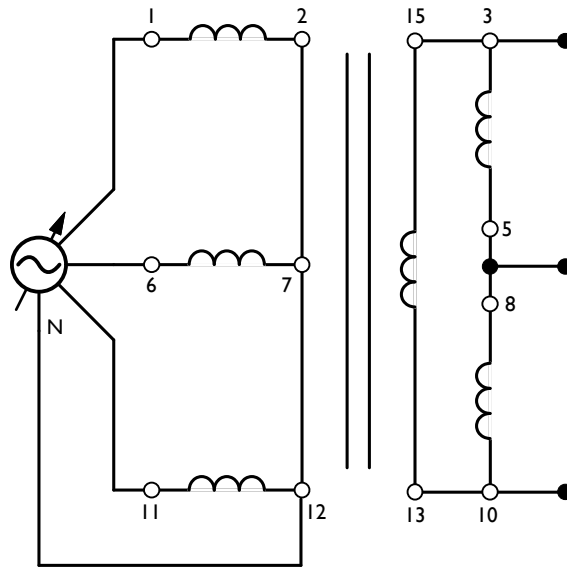

Figure 2.5: Three-Phase Transformer Connected in Wye-Delta
- 26. With the power off, connect the Three-phase Transformer module in the Y - Δ configuration shown in Figure 2.5. Connect E1, E2, and E3 to measure the line voltages at the primary, E_{1-6} , E_{11-1} , and E_{6-11} .